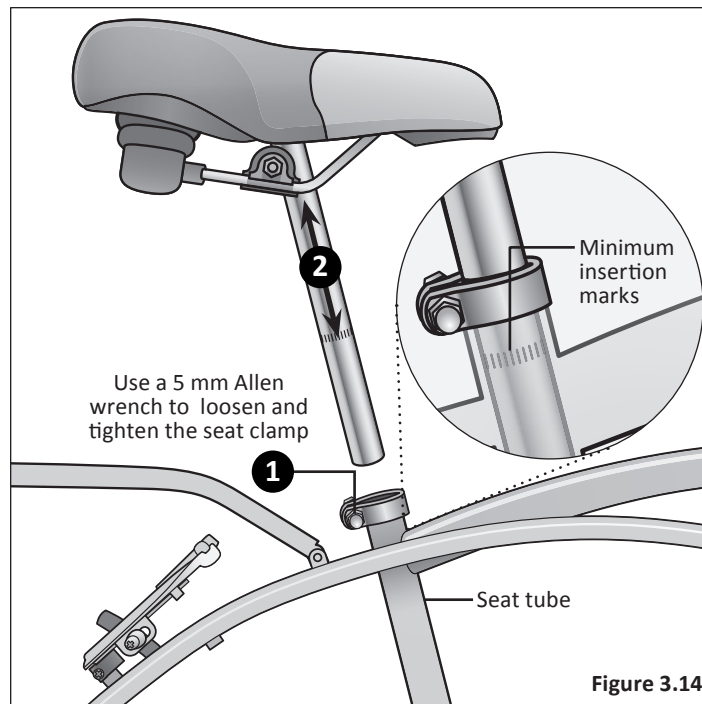

Figure 3.14
- 1 Using a 5 mm Allen wrench, loosen the seat clamp bolt and insert the seat post into the seat tube. **Figure 3.14**